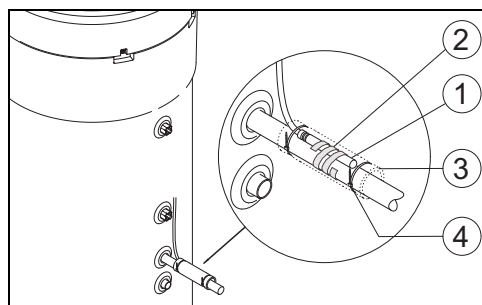

Fig. 8
- ▶ Position the temperature sensor connected to the accessories (Fig. 8, [1]) as shown in Fig. 8.
- ▶ Fasten the temperature sensor to the pipe using the plastic spiral supplied (Fig. 8, [2]).
- ▶ Wrap the temperature sensor in insulating material (Fig. 8, [3]).
- ▶ Secure the insulation using the 2 cable ties supplied (Fig. 8, [4]).